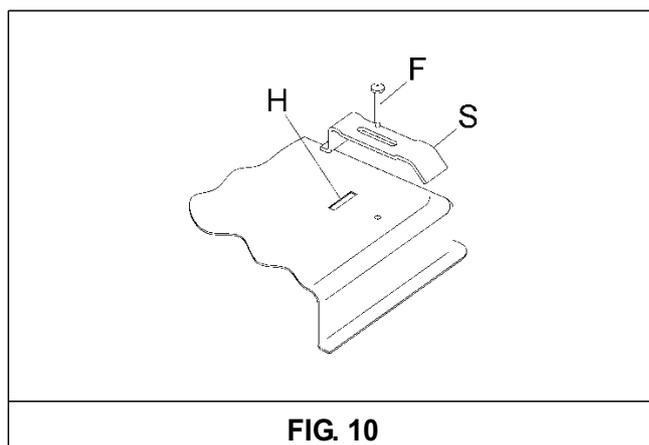

FIG. 10
- Fix the hob with the proper brackets "S" and fit the prominent part into the porthole "H" on the bottom; turn the screw "F" until the bracket "S" sticks on the top (fig. 10).